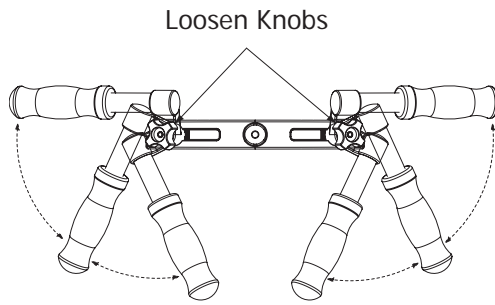

Fig. 21-2
- Rotate the handles side to side (Fig. 21-2)